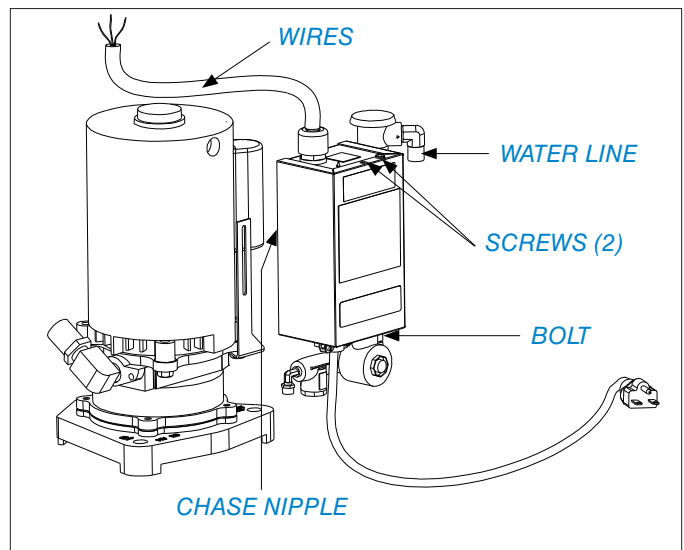

FIGURE 8. REMOVE WATER LINE FROM PUMP HOUSING
5. Remove the water line from the pump housing (FIG 8).